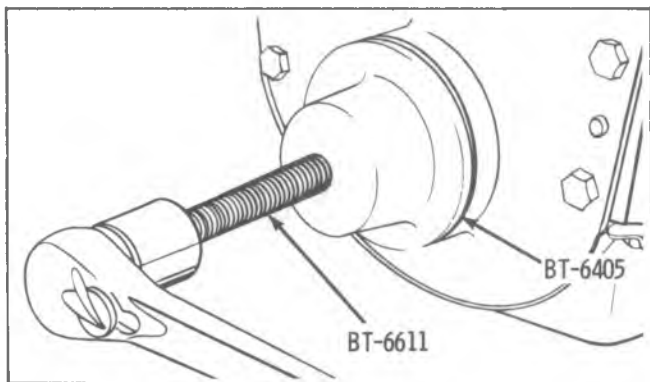

Fig. E-80—Front Oil Seal Installation
2. Using Tool BT-6405 and Screw BT-6611, install oil seal as shown in Fig. E-80.